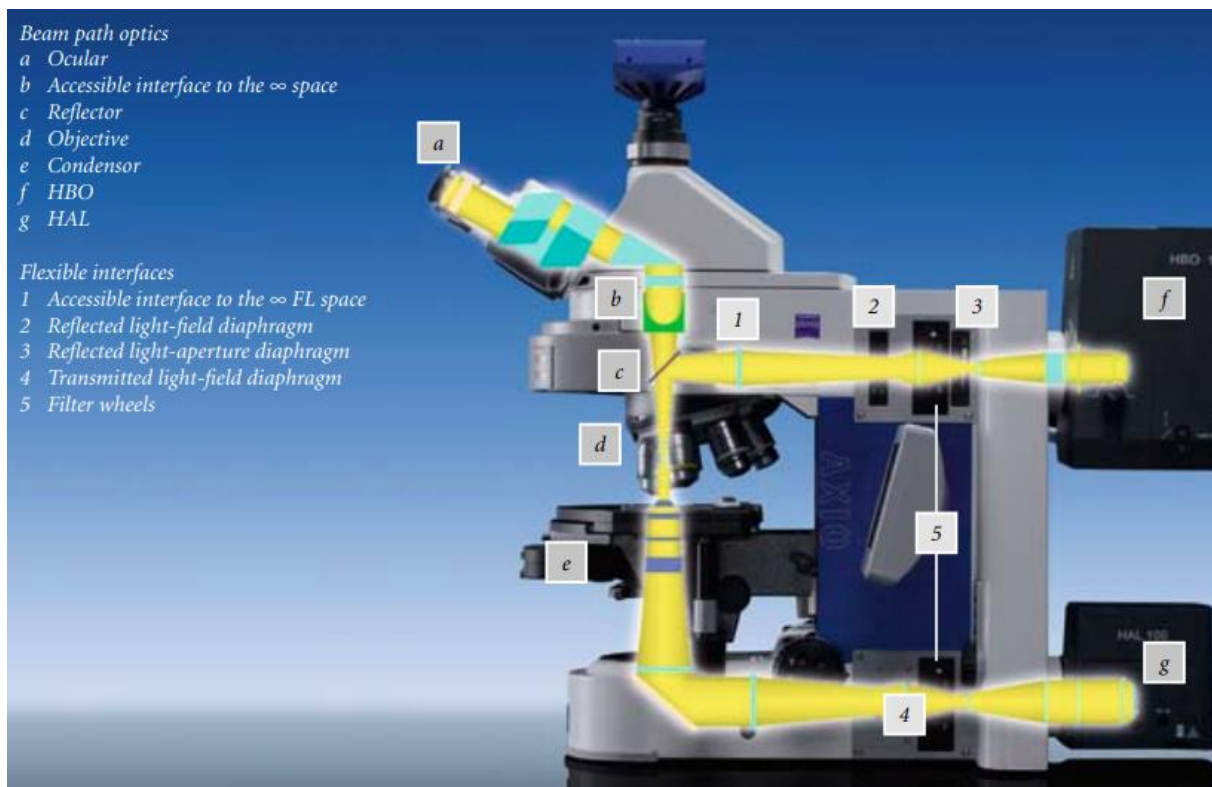
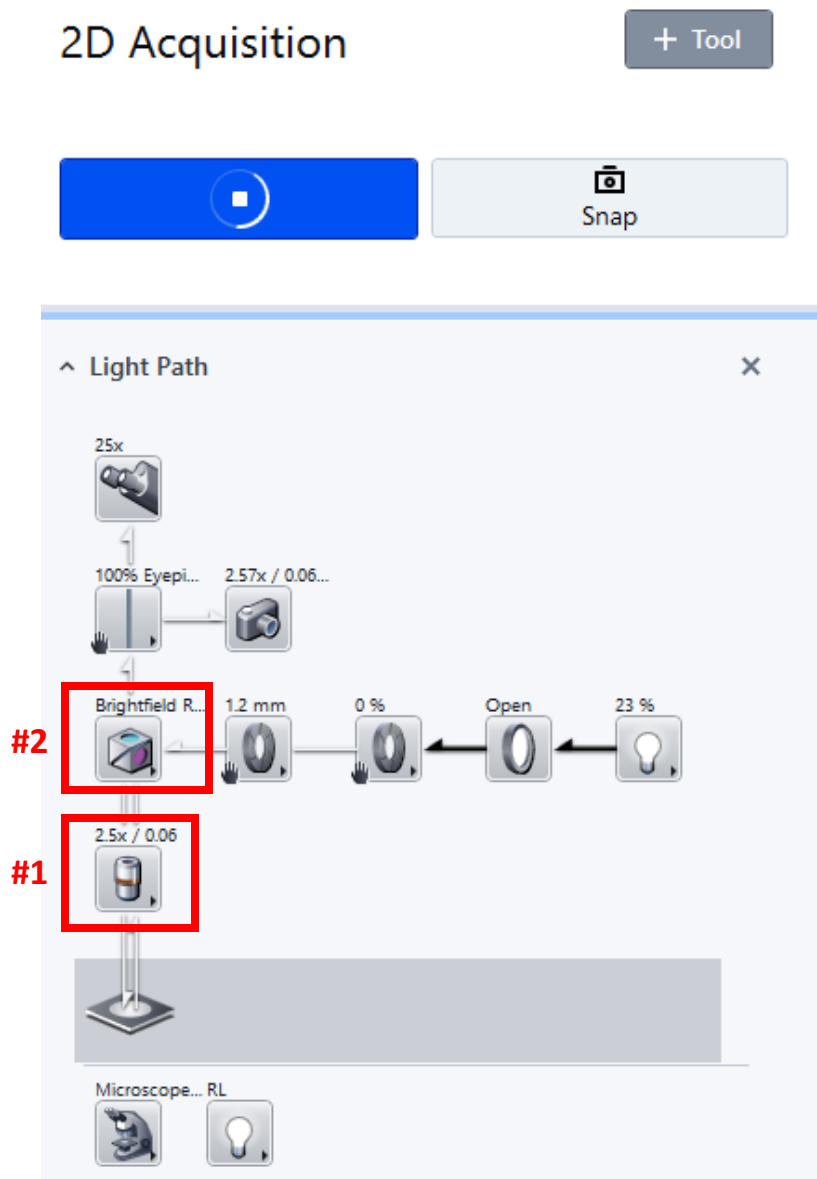
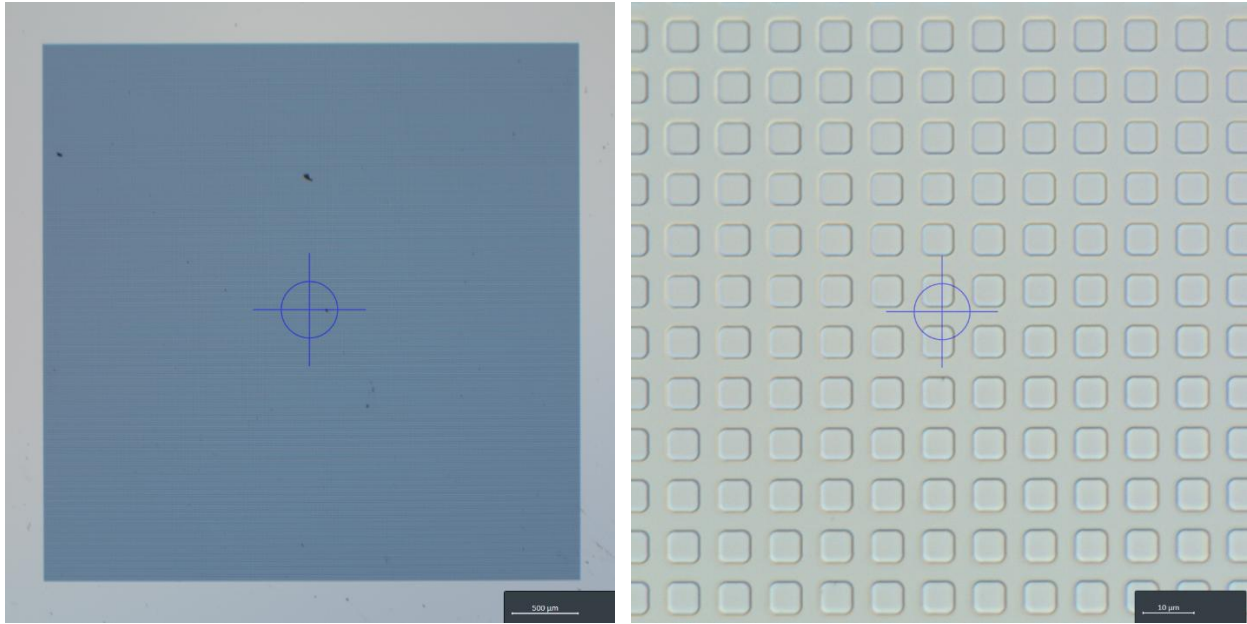
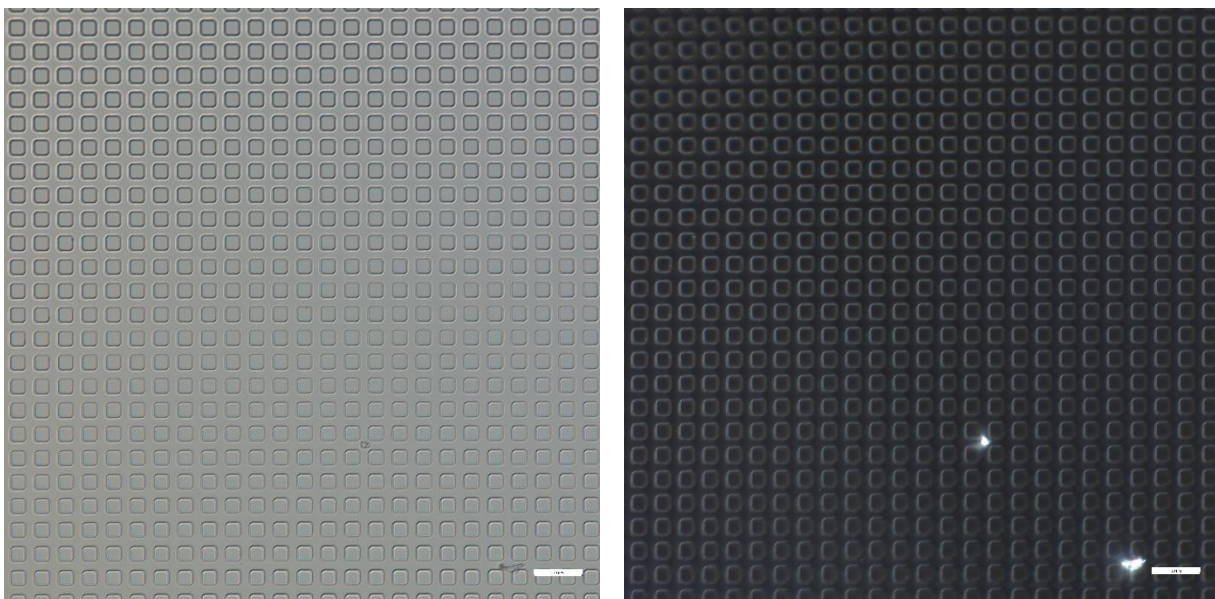

Figure 1. Optical Microscopy Setup and Components
Figure 13. 2D Acquisition Parameter Selection: Magnification (#1) and Contrast Enhancement (#2)
Figure 14. Sample Image at Two Different Magnifications: 2.5X (left) and 100X (right)
Figure 15. Sample Image with Bright Field (left) and Dark Field (right) Imaging Modes
The ZEISS Axio Imager in our characterization laboratory is used for the inspection and analysis of structures. It features a motorized focus drive, nosepiece, and reflector turret, and is capable of performing motorized Z-stack, brightfield, darkfield, and circular DIC imaging. The microscope offers magnifications of 25X, 50X, 100X, 200X, 500X, and 1000X. The components of the ZEISS Axio Imager microscope are shown in Figure 1.
12. Magnification can be changed using the software, as shown in Figure 13 (#1), or as explained in Step 3. After each adjustment, make sure that the sample is properly focused and there is sufficient space between the stage and the objective lenses. As an example, Figure 14 shows images at two different magnifications: 2.5X on the left and 100X on the right.
Contrast can be adjusted using the aperture diaphragm shown in Figure 1. For further adjustments, you can enhance imaging by selecting bright-field or dark-field options from the software, as shown in Figure 13 (#2). The difference between bright-field and dark-field imaging is illustrated in Figure 15.